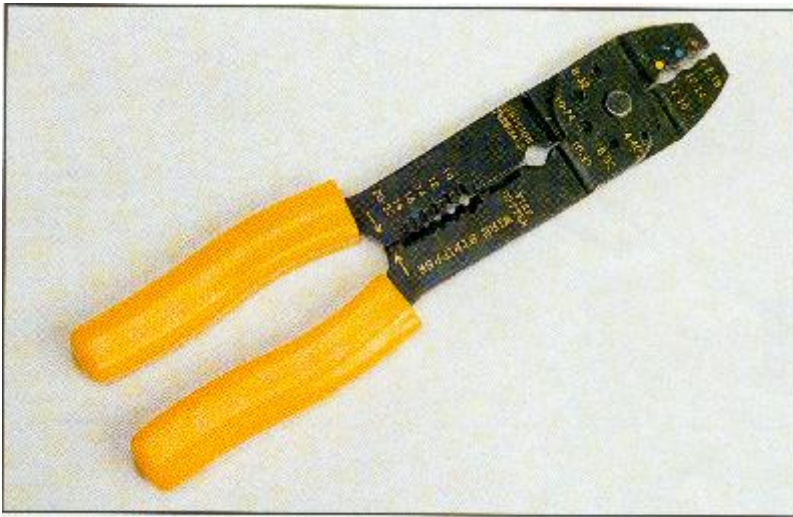

FIGURE 5
There are several ways to obtain a successful crimp on your lugs. The best way is to use a professional quality crimping tool (about \$35 to \$50 at your electrical jobber) with jaws sized for the lugs you are using. Good tools come with a variety of jaw sizes that are easily inserted in the tool. Alternatively, if you only have a few dozen to a few hundred lugs to attach, you may use an electricians pliers (\$12 or so) that has typically three tooth sizes and also several wire stripping points (see Figure 5). That's what I use at home, on car projects and on my own homebuilt restoration project.
**The crimping tool illustrated in Figure 5 is readily obtainable from a variety of commercial sources. I own several variants and in the AeroElectric Connection, I describe the techniques for using it. The Tool can produce satisfactory crimps on both insulated and non-insulated terminals. The easiest tools to use are ratchet handled devices that close down on the terminal with hard dies . . . you are not allowed to under-crimp the joint with these tools. The handles must be fully cycled before the tool will open. A line of low cost tools (\$35-40 each) with ratchet handles is offered through our website catalog and through other commercial outlets.**